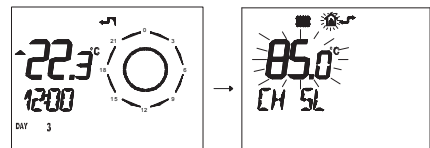

Fig. 7.25
- Press button  for more than 3 seconds to enter in *INFO* (Fig. 7.25) mode.